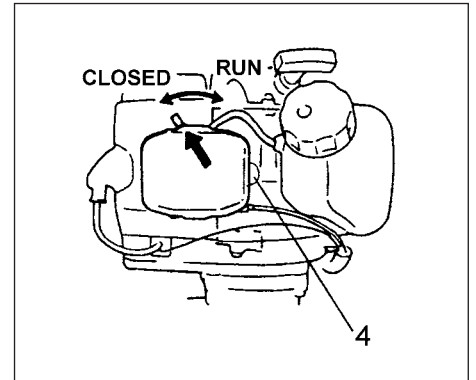

Fig. 2-3
- * Push priming bulb (4) several times so that fuel flows through the bulb or return pipe. (If so equipped) (Fig. 2-3)
3. Set choke lever to CLOSED position. (Fig. 2-3)
5. When you hear the engine want to start, return choke lever to RUN position (open). Then pull recoil starter briskly again. (Fig. 2-3)